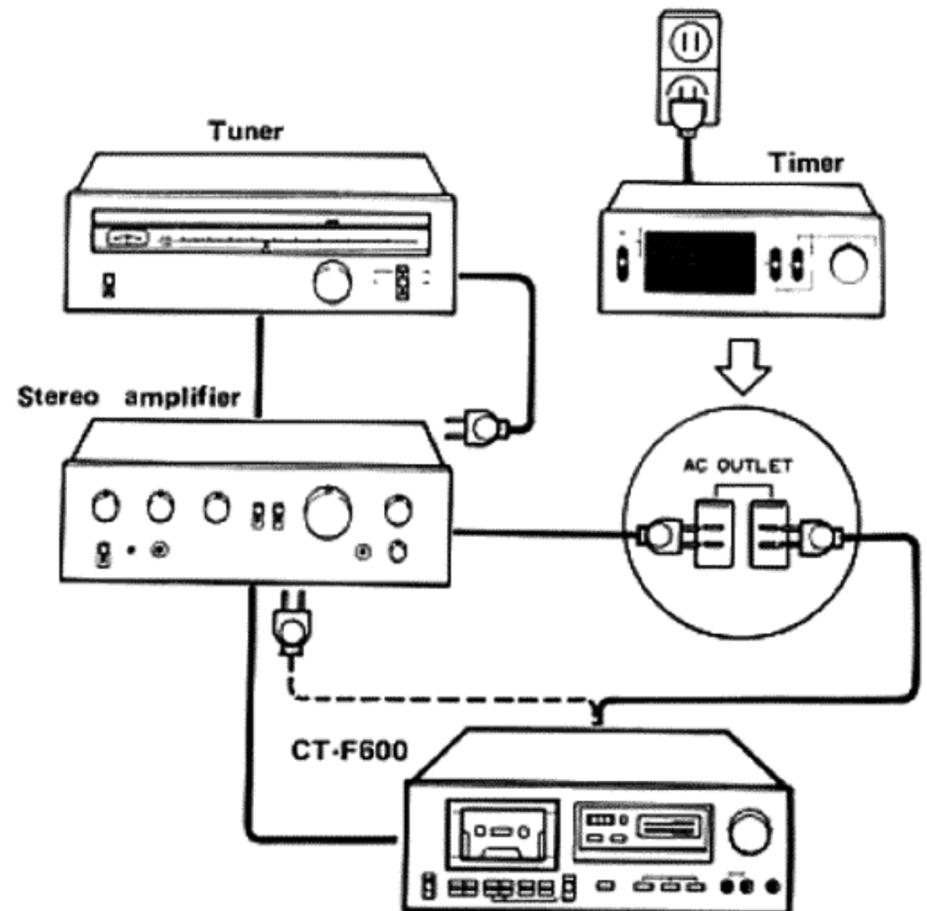

Fig. 2
1. Connect the power cord of the CT-F600 to the timer (Fig. 2). Use a power cord to connect the power of the stereo system (tuner, amplifier, etc.) which you have connected to the deck so that it is switched on and off by the timer.
3. Follow the "Recording procedure" steps (1) through (6) on page 6 and set the recording level.